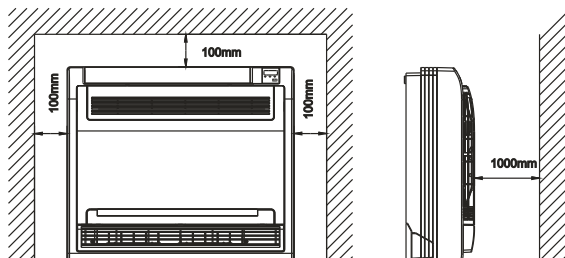

Fig.43-2
- There is enough room for installation and maintenance.(Refer to Fig.43-2 & Fig.43-3)